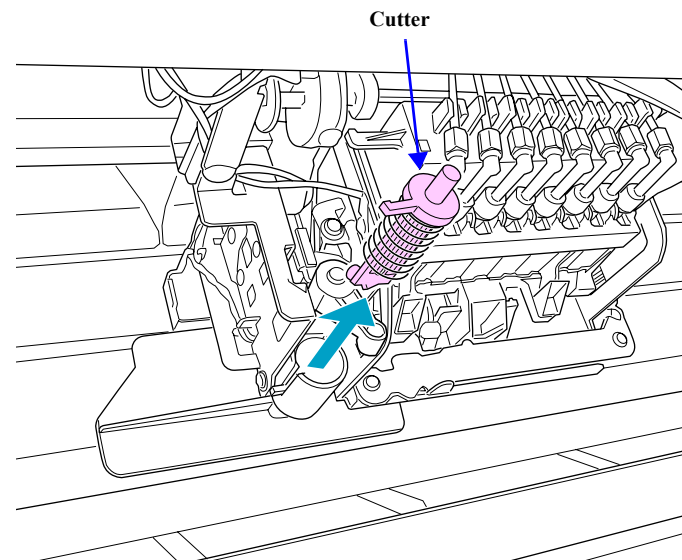

Figure 4-11. Removing the Cutter (2)
5. Remove the Cutter from the CARRIAGE ASSY. *See Figure 4-11.*